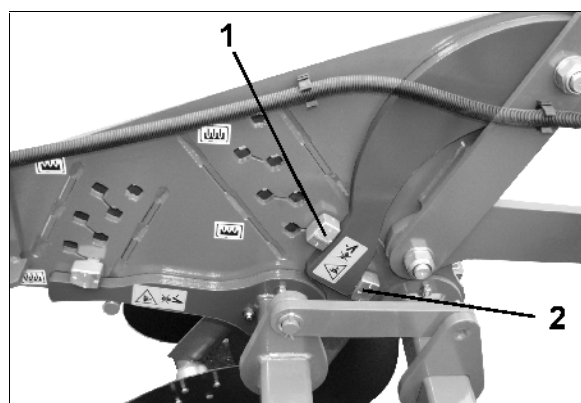

Fig. 31
- Reposition the eccentric pin (Fig. 31/1) in one of the provided inserting points:
- Twist the eccentric pin (Fig. 31/1)
The chosen setting holes (Fig. 31/1) must coincide. Equally set the numbers on the stops of the eccentric pins on both machine sides.
In case the shares are not pulled in sufficiently, reposition the 3rd eccentric pin (Fig. 31/2) directly underneath the bracing arms. In this way the shares are additionally loaded by the roller..